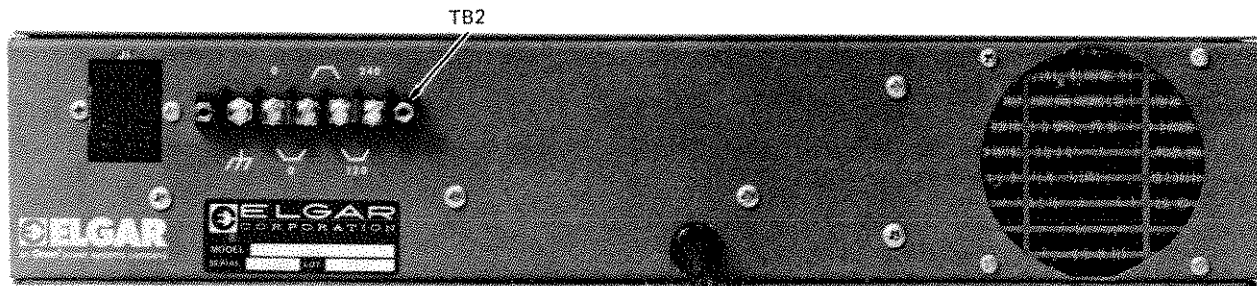

Figure 3-1. Rear Panel
3. Connect the load to the appropriate terminal of the rear panel power output terminal block (see Figure 3-1). For bench mounted applications, the front panel binding posts may be used for 220 or 115V output.